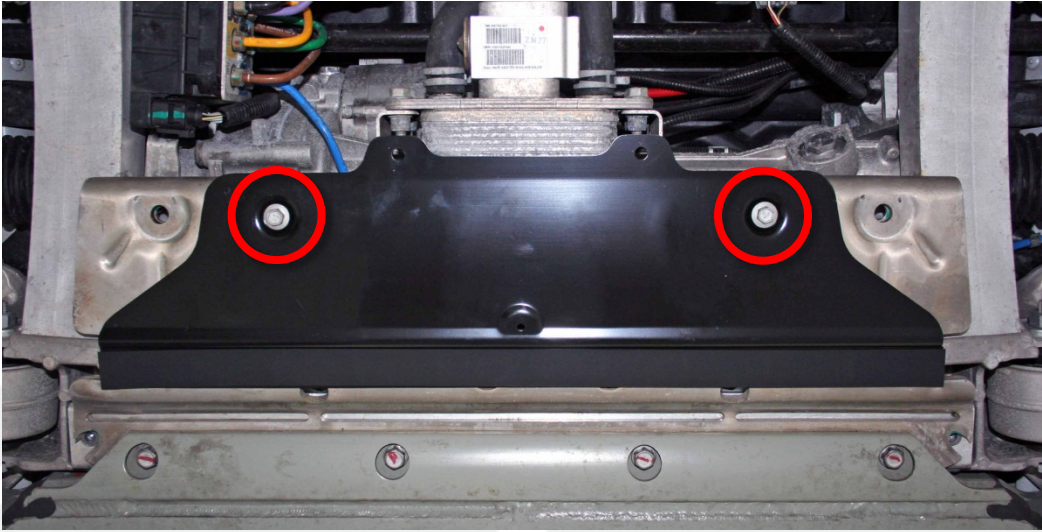

Figure 13
- Repeat steps 3 through 5 for the other side of the bash plate stamping (Figure 13).